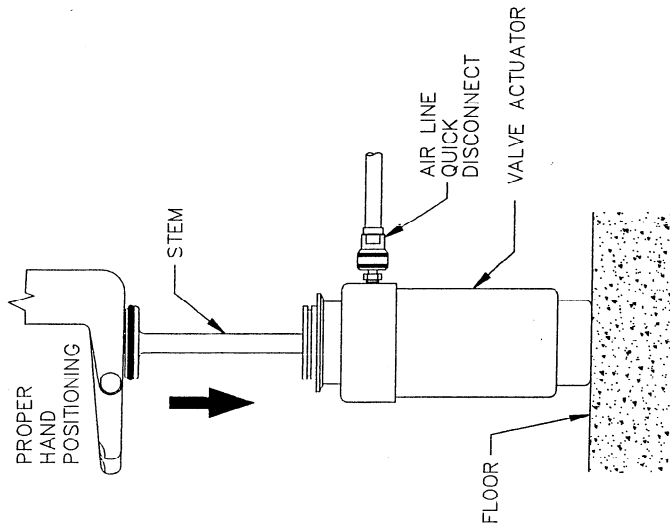

FIGURE 1
- B) PLACE STEM IN THE VALVE ACTUATOR AS SHOWN IN FIGURE 1.
- C) APPLY PRESSURE TO THE TOP OF THE STEM AS SHOWN IN FIGURE 1.
**CAUTION:** USE THE FLAT OF THE HAND AS SHOWN IN FIGURE 1. FAILURE TO FOLLOW THIS MAY RESULT IN PERSONAL INJURY.